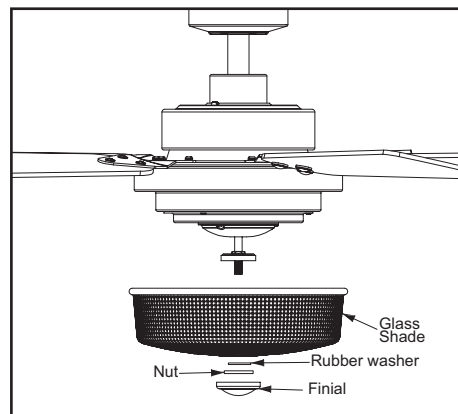

Figure 16
3. Remove the rubber gasket, nut and finial from the threaded nipple of the light kit fitter assembly. Position the glass bowl over the threaded nipple. Re-install the rubber gasket, nut and finial to the threaded nipple to secure the glass bowl properly. (Figure 16)